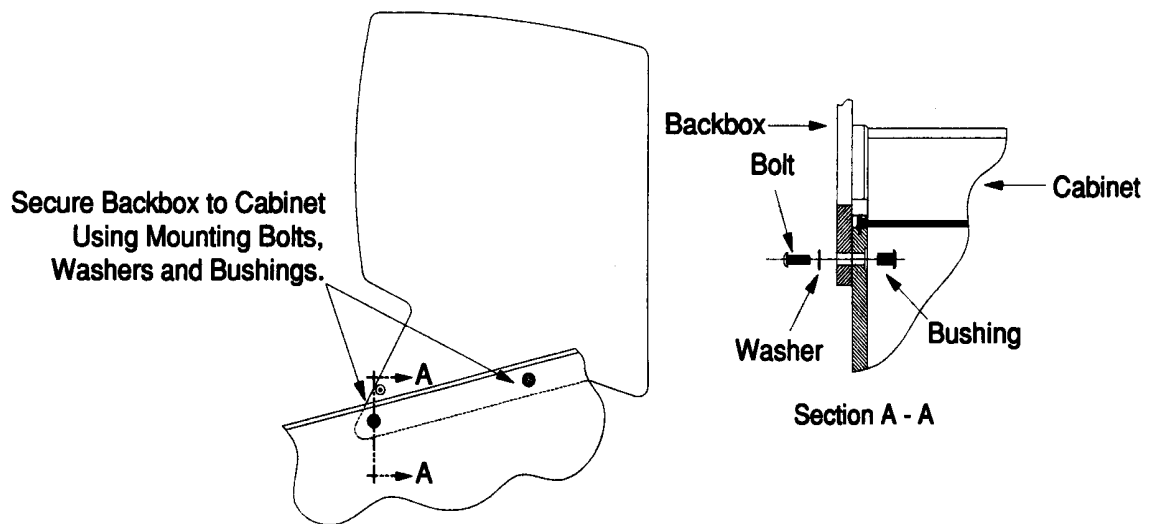

FIGURE 10
9. Line up the four mounting holes in the cabinet with the mounting holes in the backbox. In each of the four mounting holes, insert one bushing from the inside of the cabinet and one washer and bolt from the outside of the backbox. Use the 7/32" hex key in the bolt and the 1/4" hex key in the bushing and securely fasten the backbox to the cabinet. See Figure 10 below.